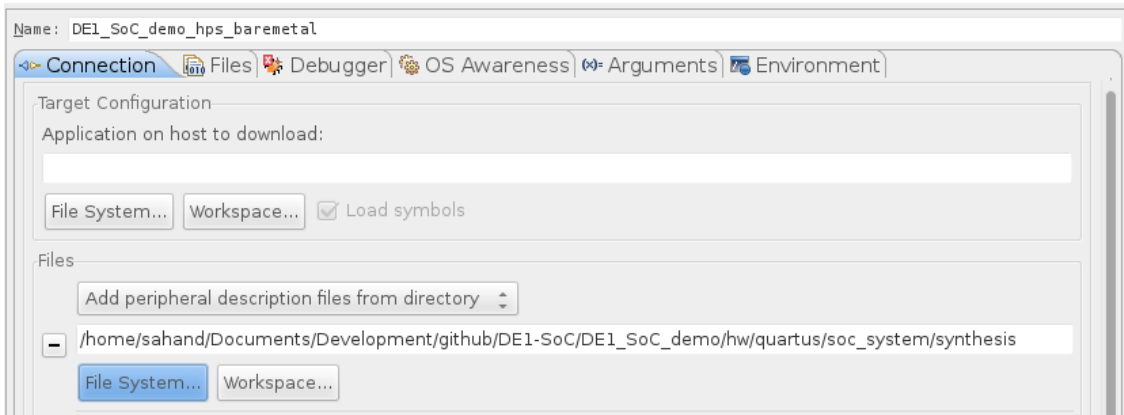

Figure 12-6. Debug Configuration "Files" Tab
- b. In 9.3.2, we configured our HPS to use some FPGA peripherals. We can instruct the debugger about this so it can show more detailed information when debugging. To do this, set the combobox to "Add peripheral description files from directory" and set it to the "DE1\_SoC\_demo/hw/quartus/soc\_system/synthesis" directory, as shown in Figure 12-6. This directory contains a file called "soc\_system\_hps\_0\_hps.svd" which has information on all of the HPS' peripherals which are in the FPGA fabric.